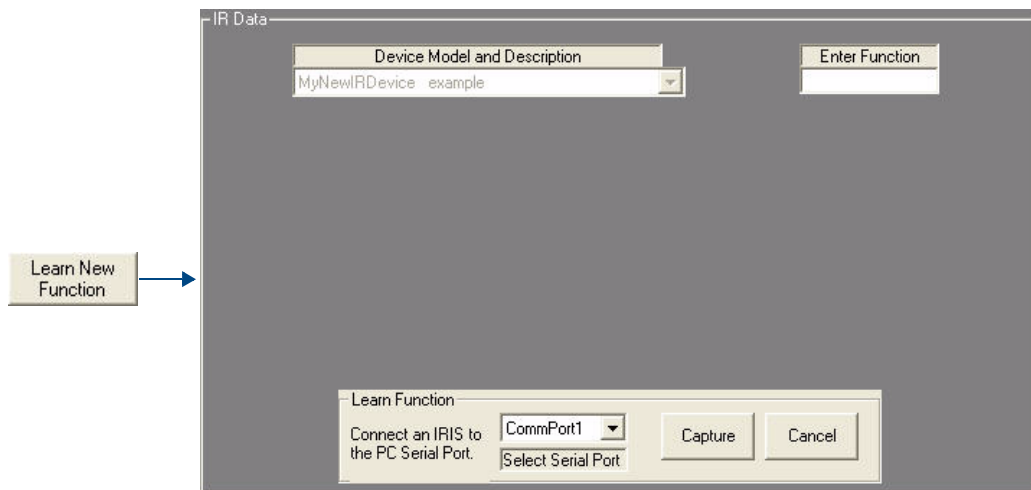

FIG. 79 AMX IR Library dialog - Learn New Functions fields
- Click on **Learn new function** to invoke the *Learn Function* fields (FIG. 79):